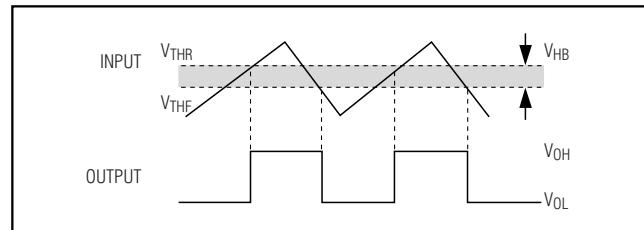
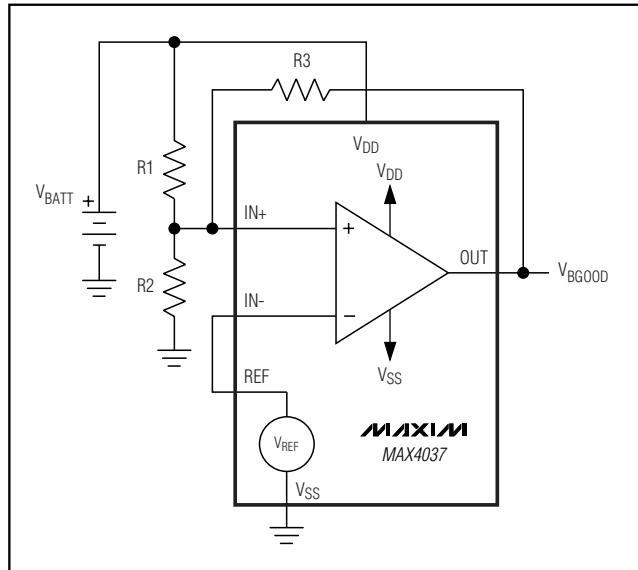

Figure 3. Hysteresis
Figure 4. Battery Monitoring
Although optimized for use as an operational amplifier, the MAX4036–MAX4039 can be used as a rail-to-rail I/O comparator (Figures 3, 4). External hysteresis can be used to minimize the risk of output oscillation. The positive feedback circuit, shown in Figure 4, causes the input threshold to change when the output voltage changes state.
The internal reference and low operating voltage of the MAX4037/MAX4039 make the devices ideal for battery-monitoring applications. Hysteresis can be set using resistors as shown in Figure 4, and the following design procedure:
- 2) Choose the hysteresis voltage (V_{HB}), the voltage between the upper and lower thresholds. In this example, choose $V_{HB} = 50mV$ (see Figure 3).